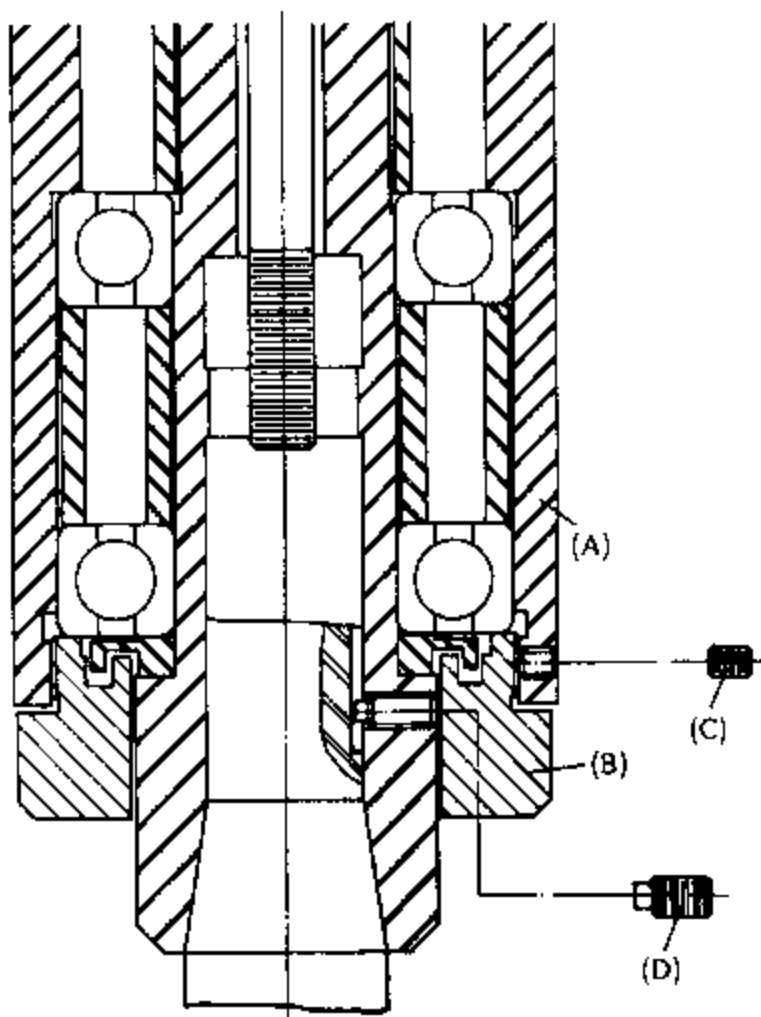

Figure 34
(5) Replacement of Collet Aligning Screw (Vide Figure 34): (Available for R8 spindle only)
- a. Prior to replacement, use a marking pencil to draw a line on quill (A) and its nose piece (B).
- b. Loosen the setting screw (C) nose piece. Use a hook spanner to take off the nose piece (B).
- c. Use a hexagonal spanner of appropriate length to take off the collet aligning screw (D) for replacement.
- d. When the collet aligning screw is replaced, set the nose piece (B) tightly until it is positioned on the marked line.
- e. Set the set screw (C) of nose piece tightly.